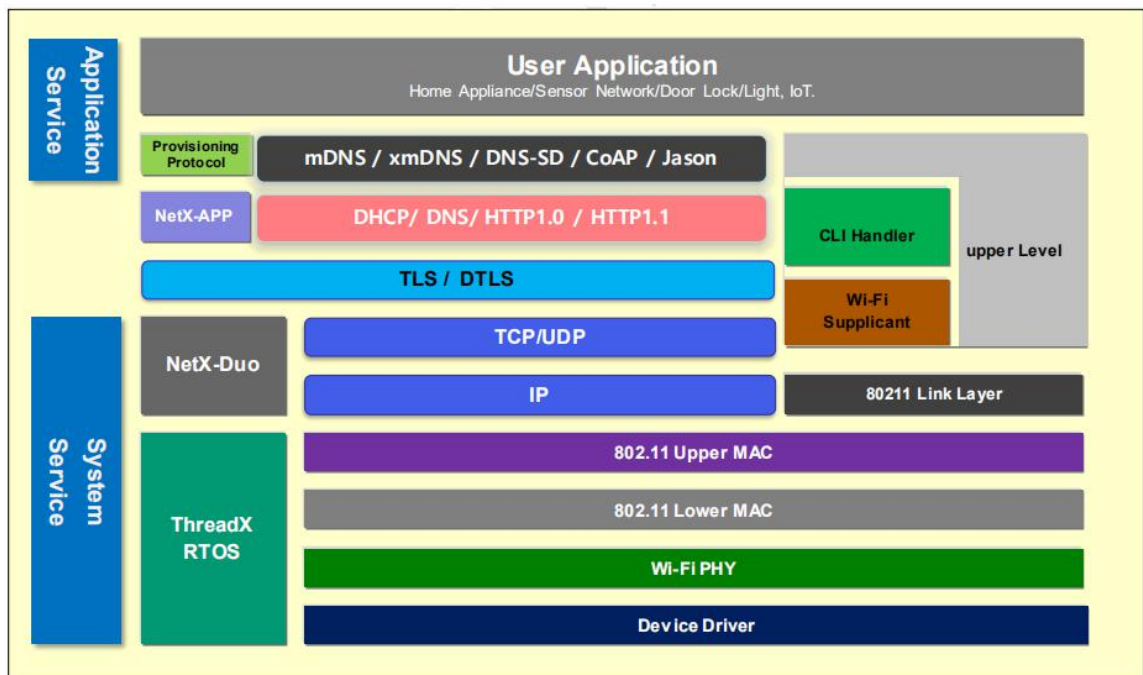

Figure 3: Software Block Diagram
Figure 3 shows the software (SW) block diagram.